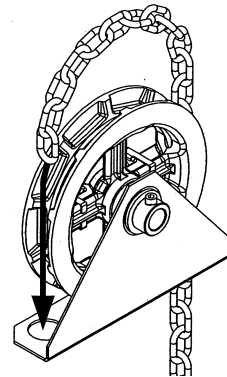

Figure 11 - Hand Chain Installation
1. Run the hand chain through the pocket wheel and through the chain guide, see Figure 11.